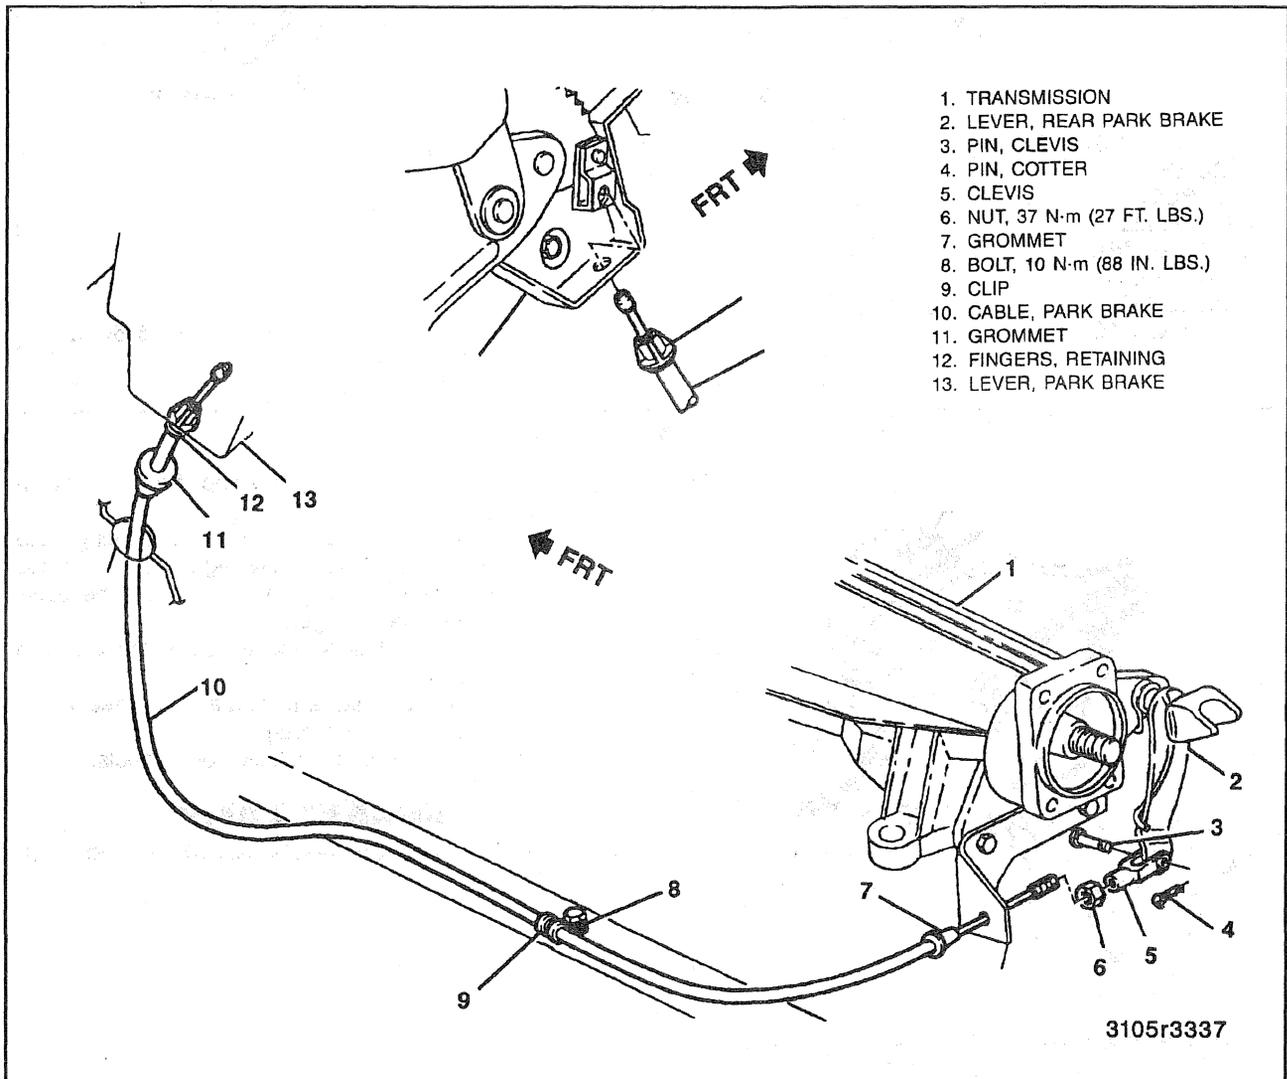

Figure 5—Parking Brake Cable
↔ Remove or Disconnect (Figure 5)
↔ Install or Connect (Figure 5)
1. Remove clevis pin (3) from lever (2) (figure 5).